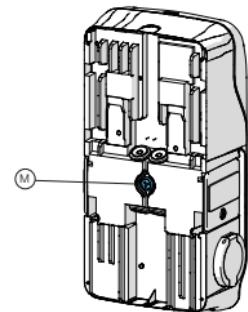

Fig. 3l
- **For Duo T / S**; shown in Figures 3l and 4l, the shielded network cable passes through a hole in the cable entry membrane (M).